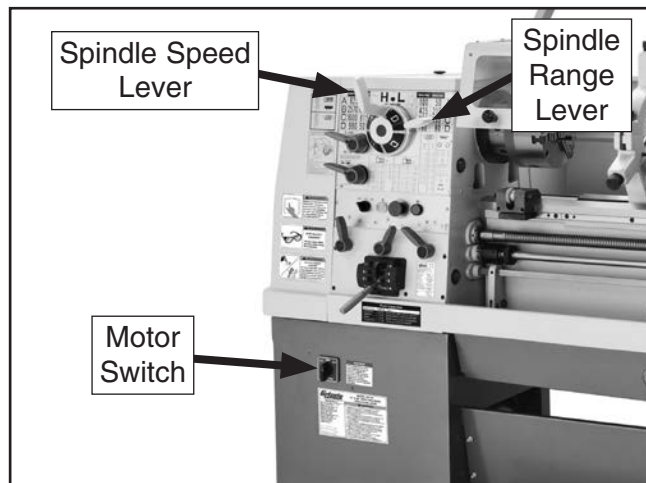

Figure 69. Spindle speed controls.
Selecting one of the 16 spindle speeds available is a combination of configuring the two-speed motor switch, the spindle range lever, and the spindle speed lever shown in **Figure 69**.
2. Turn the motor switch (see **Figure 69**) to the low (left) position.